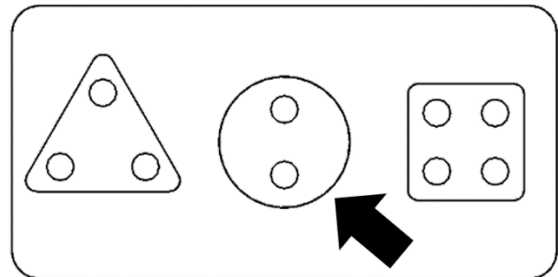

Figure 7
b. Suggest which hand tool would be used to cut the outline of the game shape marked with an arrow in Figure 7.